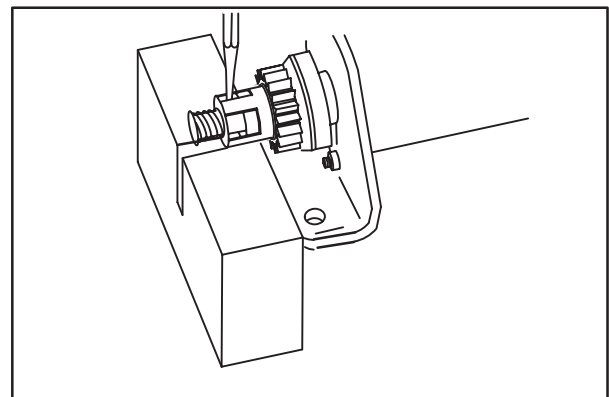

Fig. 10
1. Place starter drive retainer on support block, **Fig. 10**.